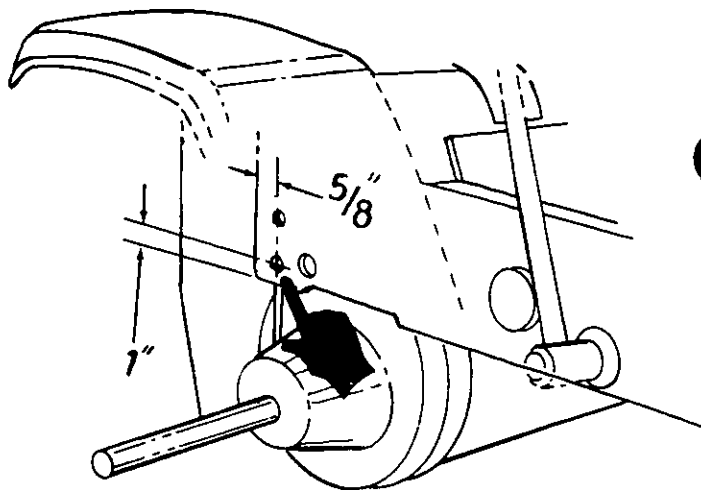

FIGURE 17
It will be necessary to drill one or both holes in the tractor frame when mounting the Rear Hanger Bracket (AC) to the older, wide frame Cub Cadet Tractors (1100 thru 1650). See figure 17.
This hole should be located 5/8" from the back edge of the tractor frame and 1" from the bottom edge of the tractor frame as shown in figure 17.